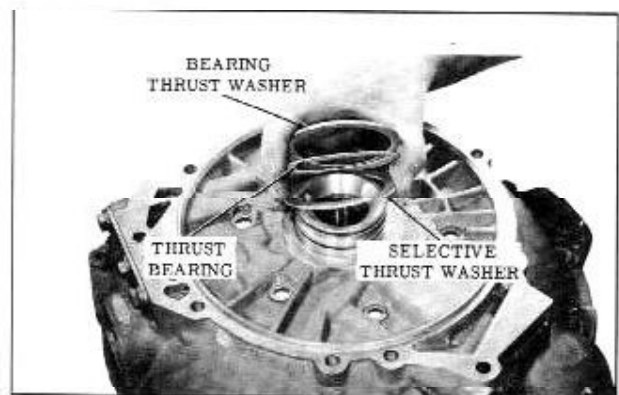

Fig. 3-79 Removing Case Cover Bearing
2. Remove cupped race, thrust bearing and the selective washer. (Fig. 3-79)